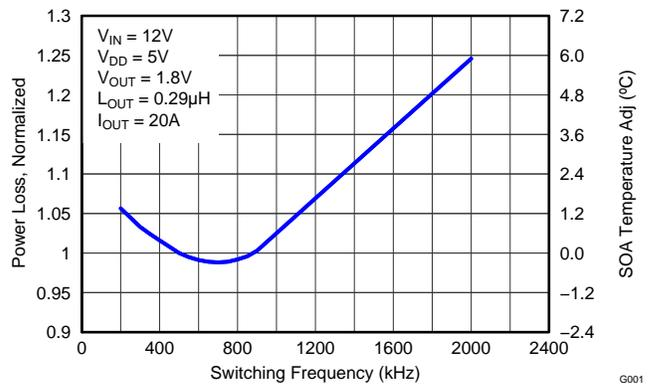

Figure 8. Normalized Power Loss vs Frequency
- Normalized Power Loss for switching frequency \approx 0.99 (Figure 8)
- SOA adjustment for switching frequency \approx -0.2°C (Figure 8)